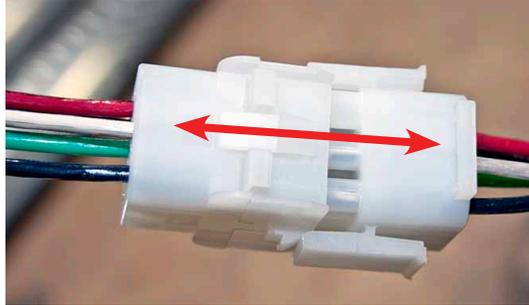
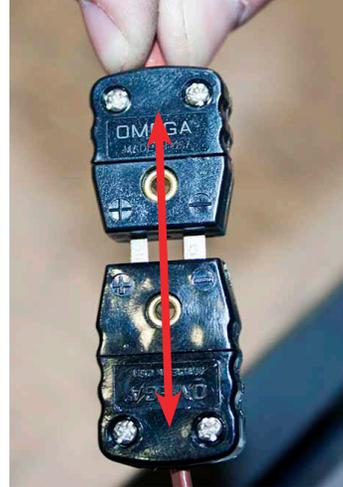

Fig. 3: 9 pin connectors - header to drawer assy
Fig. 4: Unplug thermocouple
- From the back of the header, unplug the 9 pin male/female harness connectors (Fig. 3) and thermocouple male plug /female receptacle (Fig. 4).
- A. Unplug the 9 pin male/female harness connectors (Fig. 3).
- B. Unplug the male thermocouple plug and female receptacle of the thermocouple wires (Fig. 4).